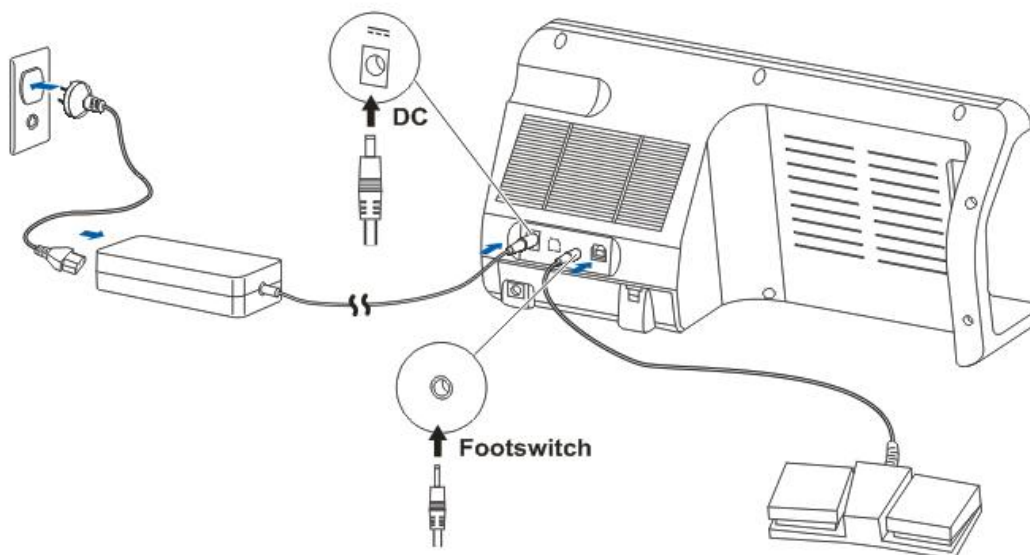

Figure 3.5 Connection of External Interface
- 2) Connect one end of the Power Cable with the Power Adaptor, and the other end to the wall outlet, as shown in Figure 3.5.
Plug the Foot Switch connector into the Foot Switch Socket on the rear panel of the instrument, as show in Figure 3.5.